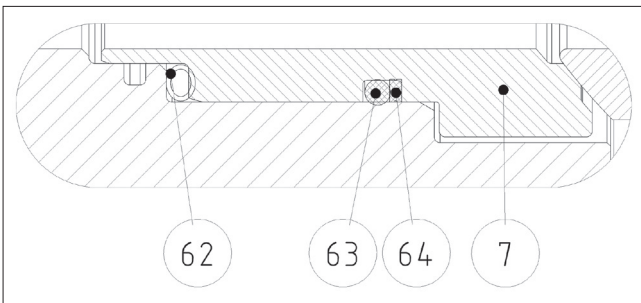

Fig. 12
- Place the back seal (O-ring) (63) into the groove in the seat. See Figure 12.
- Place the back-up rings (64) made of PTFE strips at the side of the O-ring. To ensure that the seam becomes flexible, the strip must have slanted ends.
- Place the spring (62) on the seat (7). See section R seat for installation of part (62).